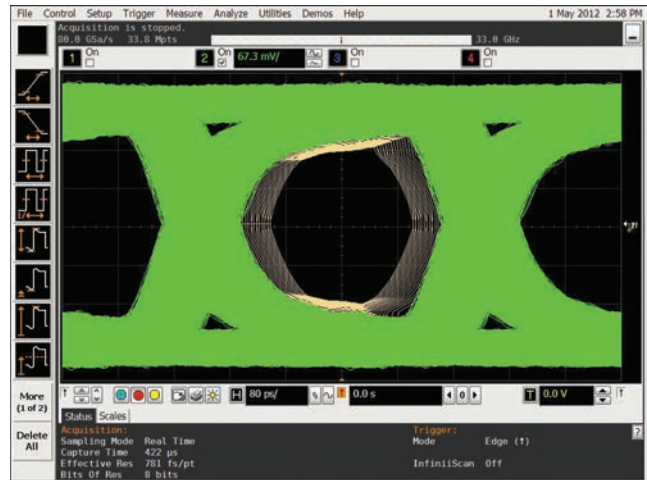

Figure 2. Eye showing BER contours from 10-1 to 10-21
**Sweep the Eye:** To comprehend vertical performance throughout the eye, the user can sweep the measurement location in the eye and performing noise analysis at each vertical solutions. With similar measurements of jitter at different horizontal thresholds the results can be processed externally to render a complete contour around the eye opening. This would be done to evaluate the statistical eye contour, or to measure over a specific range given assumptions of the behavior of the system receiver. An example of this is shown in Figure 2.